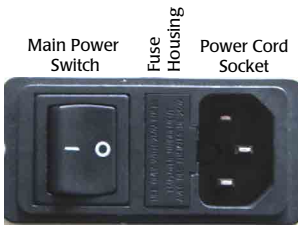

Fig. 15—Unplug the power cord to access the fuse housing release.
The instrument contains one fuse, located in the fuse holder on the back panel. If necessary, replace the fuse with the type and rating specified on the back panel. Verify that the fuse contained in the fuse holder matches the desired line voltage. A (Fig. 15).
1. Turn the main power switch off (I).
2. Unplug the power cord from the power cord socket on the back of the unit (Fig. 15).